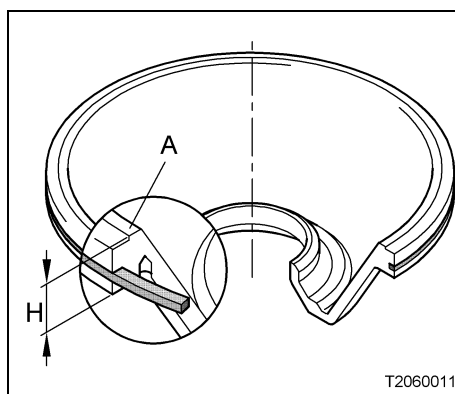

Fig. 185
- Sealing surface (A) of the sliding piston (Fig. 185)